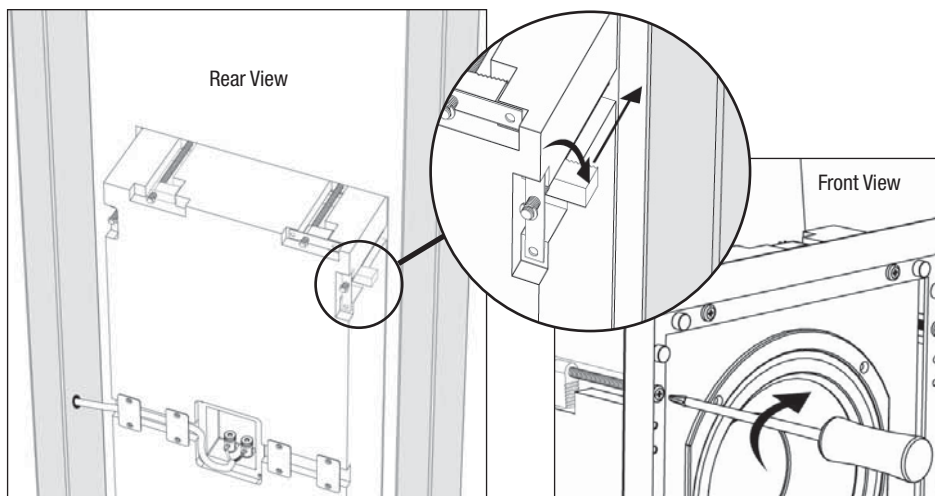

Figure 6. Installing unit into a wall.
5. Check that loudspeaker is level and then tighten the eight large screws using a #2 Phillips bit. This should pull the frame and mounting dog together (sandwiching the drywall) so that the frame is absolutely flush with the wall surface. There should be no gaps between the wall and the frame. See **Figure 6**.